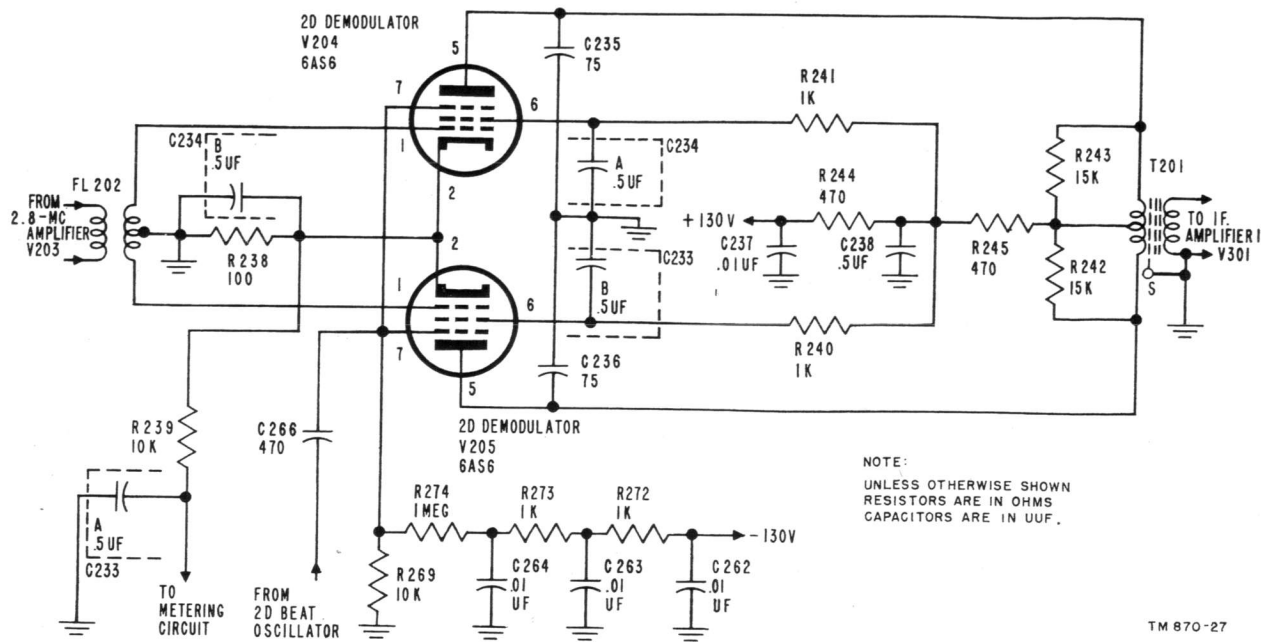

Figure 35. Second demodulator, schematic diagram.
71. Second Demodulator V204 and V205 (fig. 35)
d. Cathode bias resistor R238 (fig. 35), bypassed by C234B, provides a potential for metering the current that flows through V204 and V205. Capacitor C233A and resistor R239 filter the dc for the metering circuit.